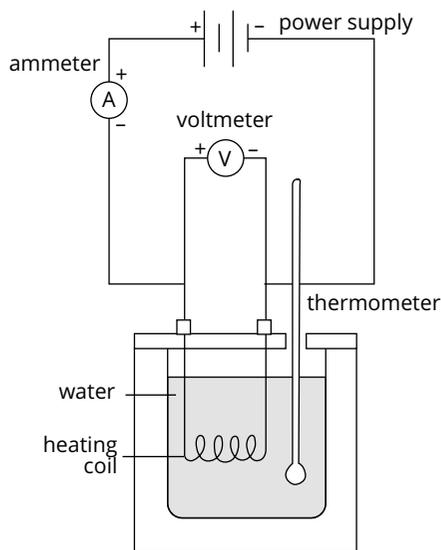

FIGURE 10.3.9 Experimental circuit set-up
- 3 Once the temperature is steady, apply a measured voltage of approximately 6V for exactly three minutes using the circuit shown in Figure 10.3.9. Stir continuously and record the temperature every 30 seconds.